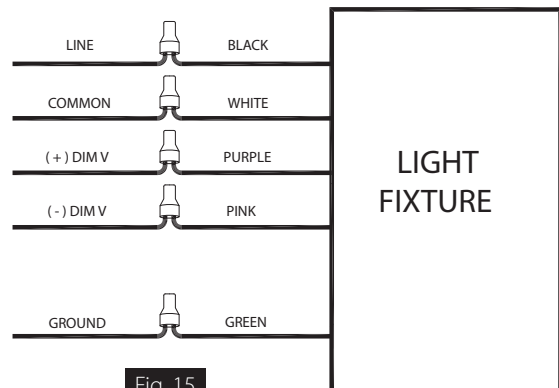

Fig. 15
2. Make appropriate wire connections per NEC in an approved enclosure (*by others*) see Fig.15. Cap off individual dimming wires if unused.
3. Make appropriate wire connections per NEC in an approved enclosure (*by others*) see Fig. 15. Cap off individual dimming wires if unused.
3. Make appropriate wire connections per NEC in a approved enclosure (*by others*) see Fig. 15.
1. Make appropriate wire connections per NEC (*Fig. 15*).
Universal voltage driver permits operation at 120V through 277V, 50 or 60 Hz. For 0-10V dimming follow the wiring directions as shown in Fig. 15.